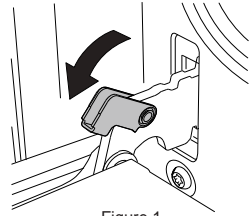

Figure 1
This appliance is manufactured with a green GROUND wire connected to the oven chassis. After making sure that the power has been turned off, connect the flexible conduit from the oven to the junction box using a U.L. listed conduit connector. Figures 1 and 2 and the instructions provided below present the most common way of connecting the ovens.
**(Figure 1)**